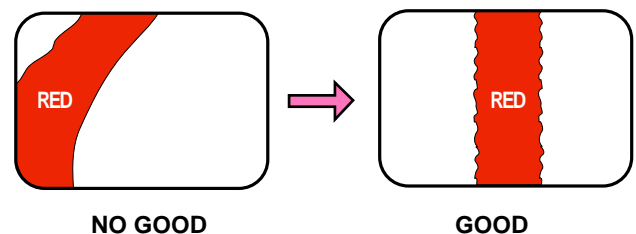

Fig. 5-2
- Adjust the Purity Magnet so that the Red area comes to the center on the CRT Screen as shown in Fig. 5-2.
- Rotate the deflection coil to find the point where the red colour whose center portion becomes equal on the CRT Screen as shown in Fig 5-2.